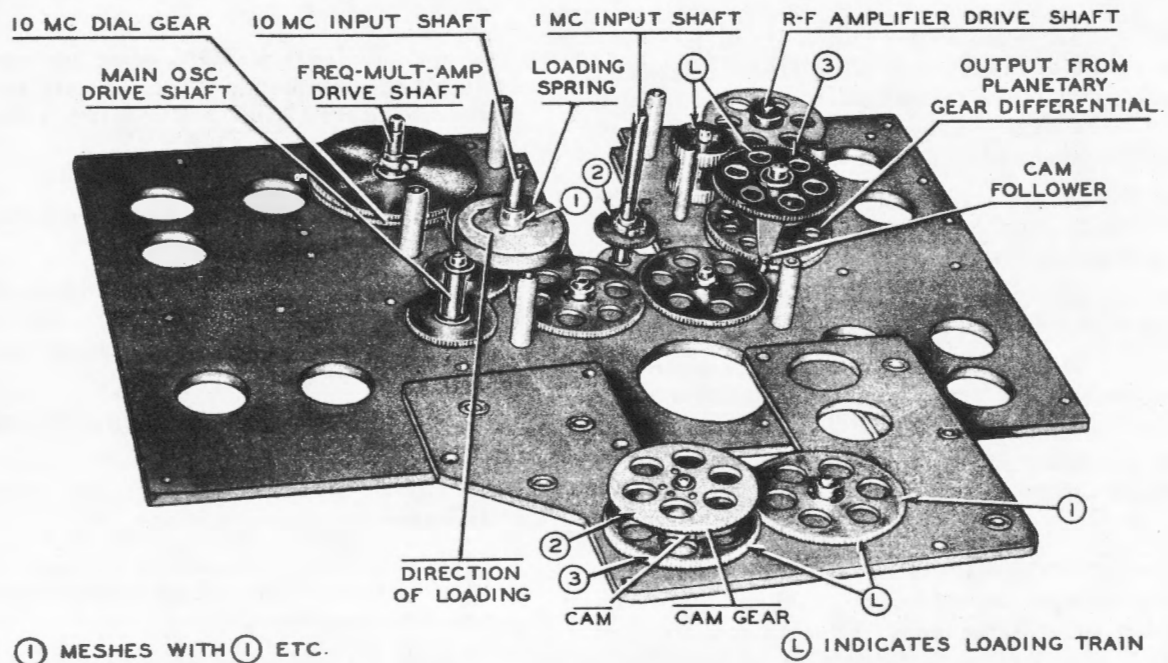

Figure 6-49. Radio Receiver R-278B/GR, Rear Gear Train, Arrangement of Gears
(a) GENERAL.—If the entire rear gear train assembly (figure 6-49) is replaced, or if the 1.0-mc or 10-mc input shafts are replaced, it is necessary to drill a  $\frac{1}{16}$  inch hole through the coupler sleeve, or the shaft, and pin them together. The point to drill must be adjusted so that the couplers have sufficient clearance. Figures 6-49 through 6-51 show the components that make up the gear trains.
Step 11. Lift out the rear gear train assembly (figure 6-49).
a. LOADING THE FREQUENCY MULTIPLIER-AMPLIFIER DRIVE GEARS.—Refer to figure 6-49 during the following steps.
Step 1. Set the Receiver Frequency Selector to 390.0 mc. The cam follower (figure 6-49) will be at its highest point, and the 1.0-mc dial (ahead of First I-F Amplifier) will read 0.
Step 2. Turn the loading spring clockwise 90 degrees by rotating L (figure 6-49).